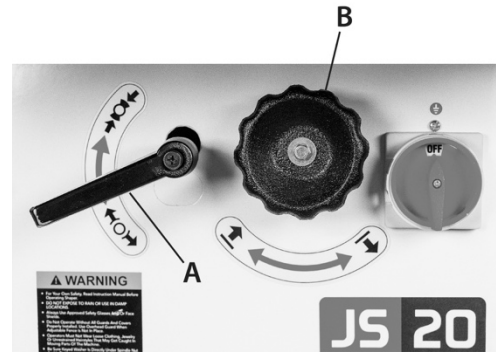

Figure 9
1. Loosen spindle lock handle (A, Figure 9). Turn handle counterclockwise to loosen.
2. Raise or lower spindle to desired height by turning handwheel (B, Figure 9).